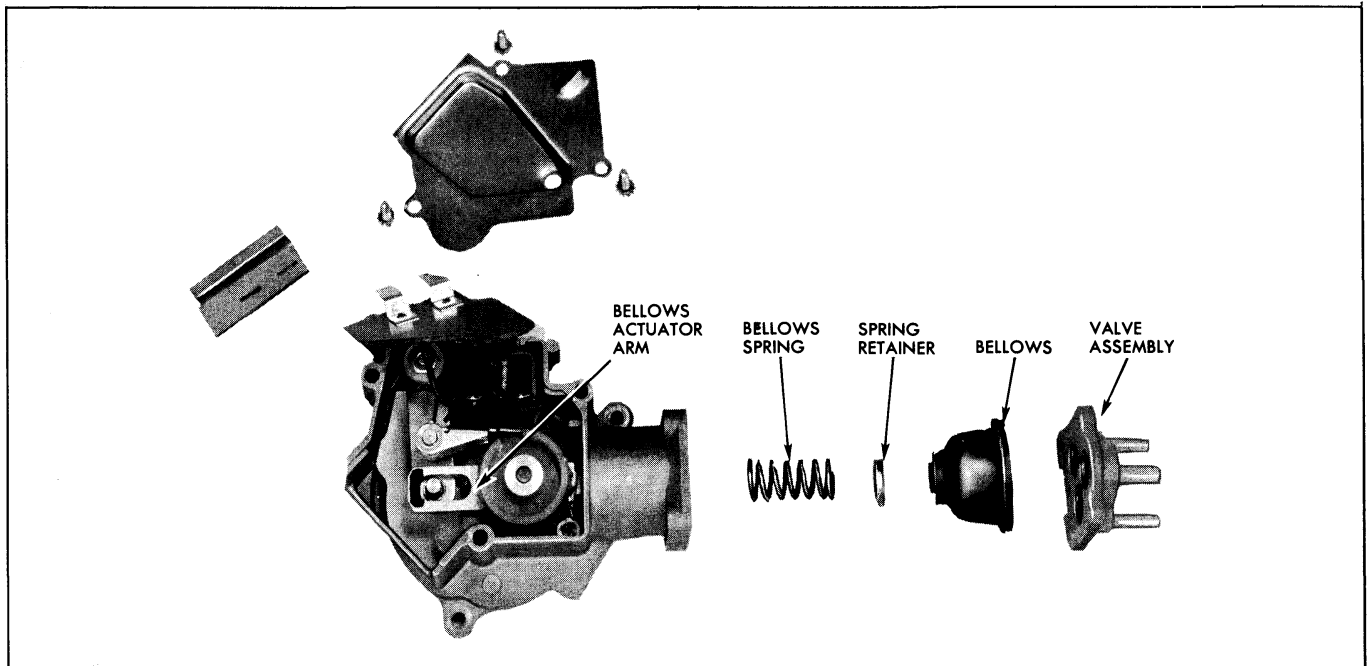

Fig. 11-115 Washer Pump—Exploded View
1. Remove the four screws that secure the valve assembly to the housing (Fig. 11-115) and gently pry the bellows lip out of the valve body.